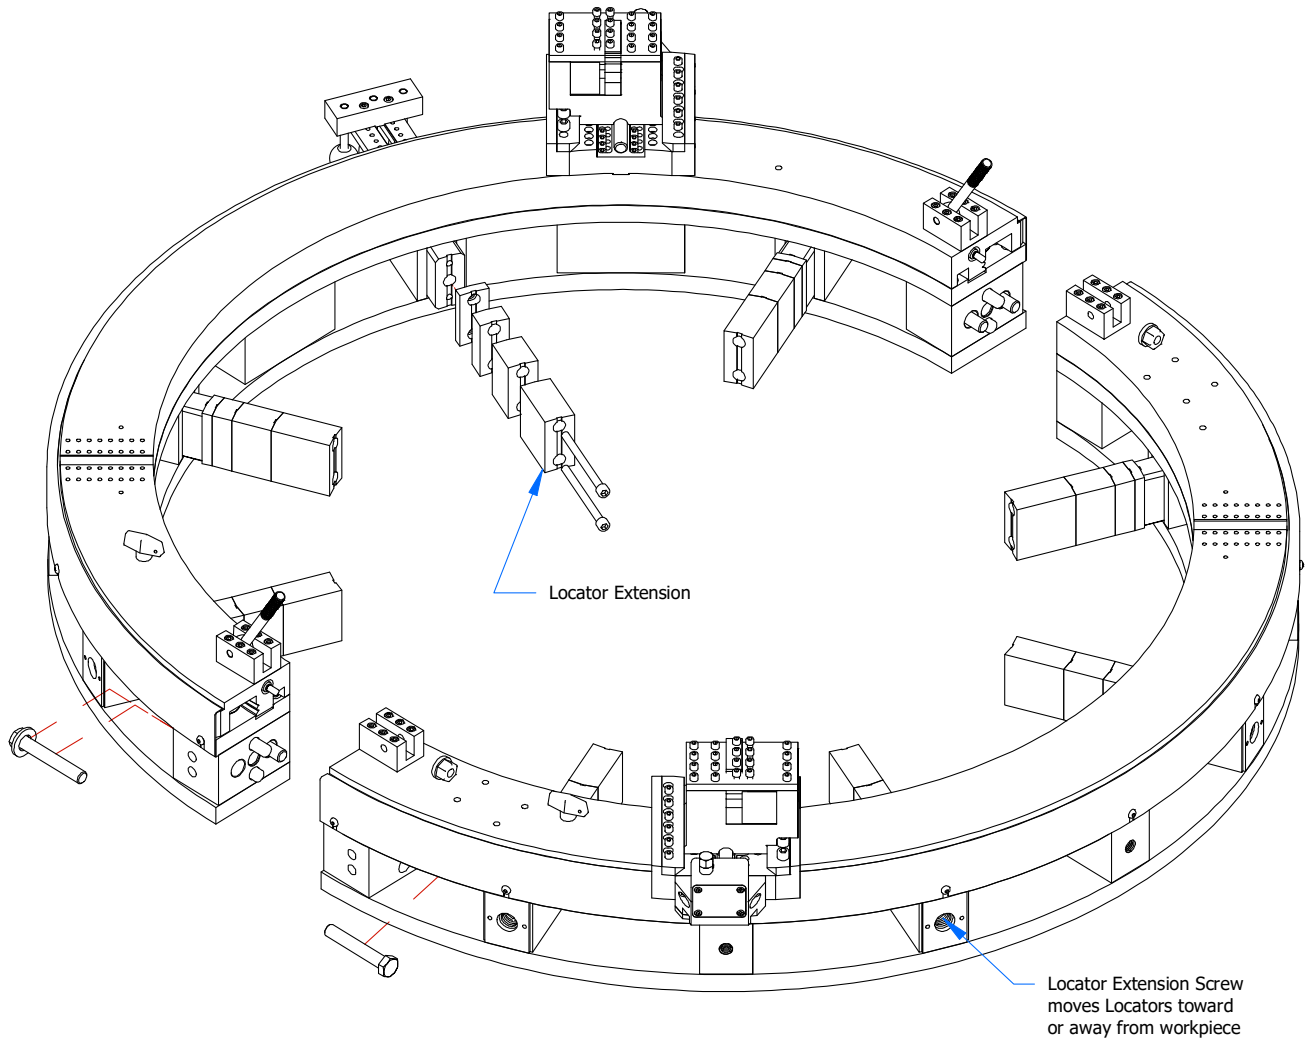

Figure 2-3 – Install Locator Extensions
3. Determine the pipe or workpiece diameter. Select the size and combination of locator extensions required to fit around the diameter of the workpiece. Locator adjustment is done by turning the set screws on the outside of the clamshell housing. Back the locators out slightly so they will clear the workpiece diameter when the clamshell is placed around the workpiece. See Figure 2-3.